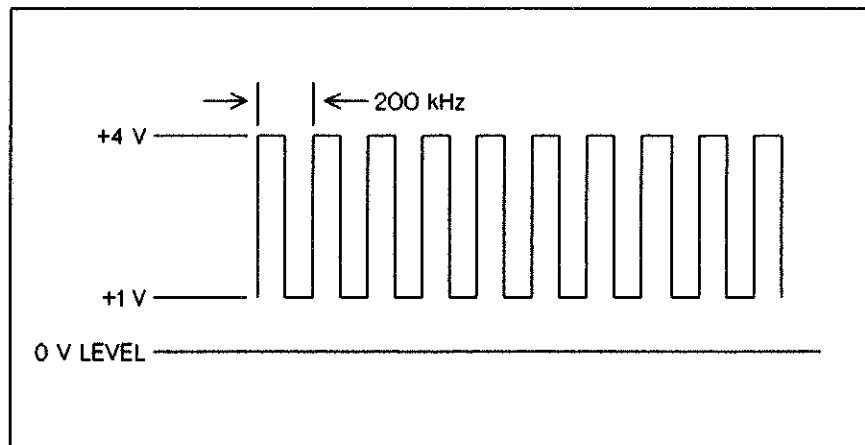

Figure 11-3 Isolated Input Test Signal
2. Set the function generator to output a +1 V to +4 V peak-to-peak, 200 kHz square wave. The signal is represented in Figure 11-3. If using the recommended function generator, set it up as follows (a 50 Ω output impedance is assumed):